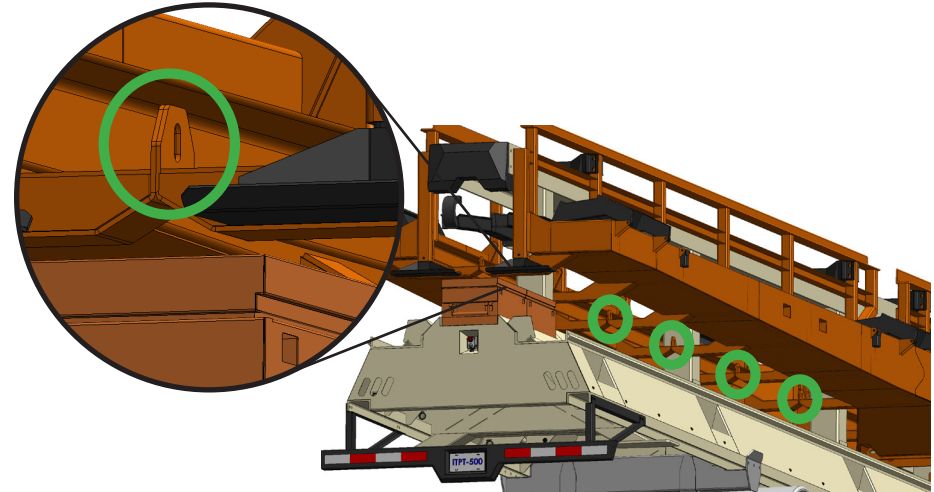

Fig. 3: interior connection points
3. Unbolt catwalks at *Lower Catwalk Stow Connections*. (see fig. 3)